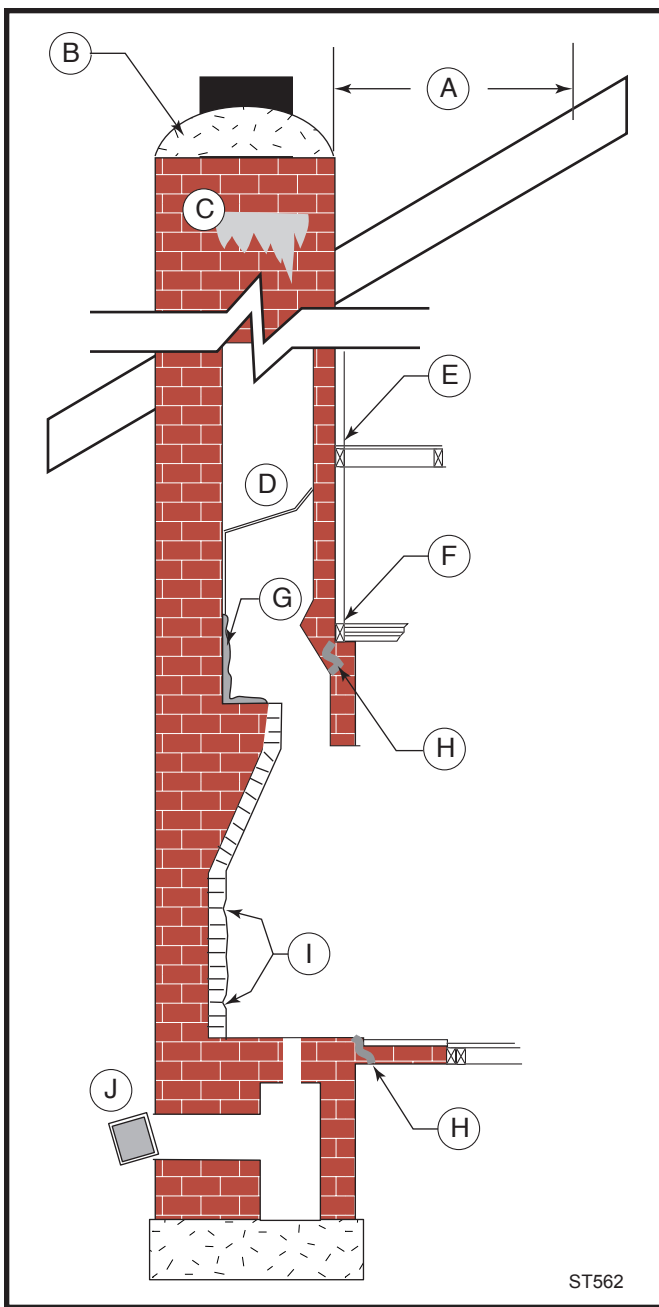

Fig. 6 Existing chimney.
If the Vigilant is installed in a corner (corner installation) and no shields are used, the corners of the stove must be at least 16" (410 mm) from nearby walls. (Fig. 6)
**Fig. 6** Minimum clearance, corner installation, no heat shield. Measure these distances from the edge of the top plate of the stove nearest the wall to the combustible part of the wall.